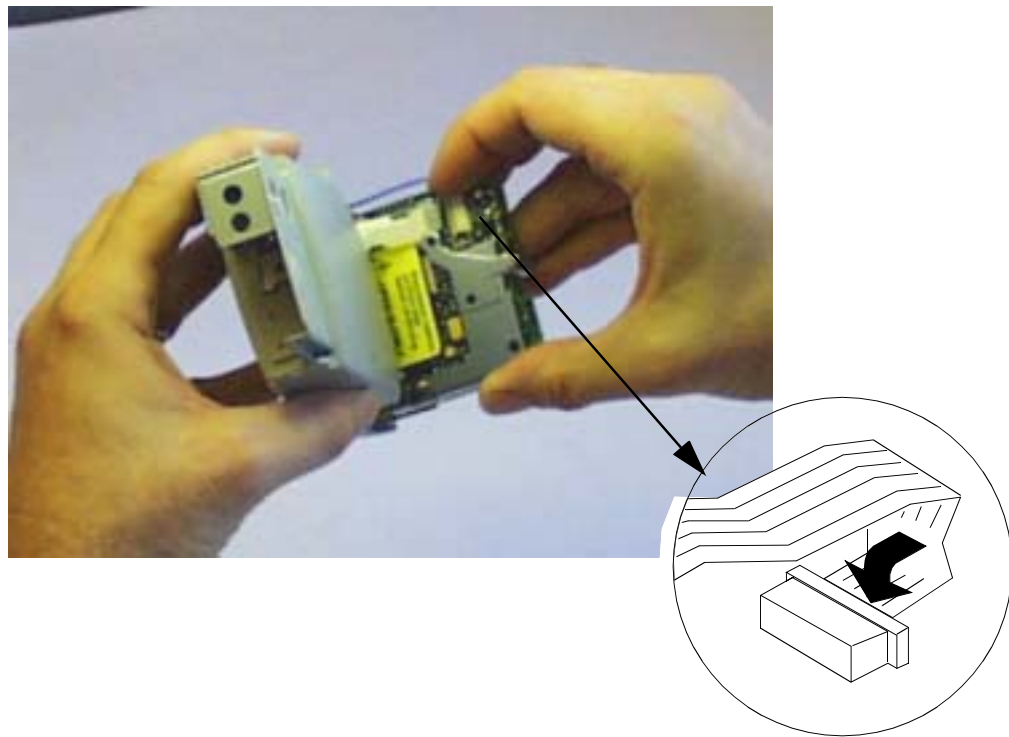

Figure 6-19 Hinge Collar Down and Push In
Step 4. Hinge the collar down and push it in to secure the ribbon cable in place. See Figure 6-19.